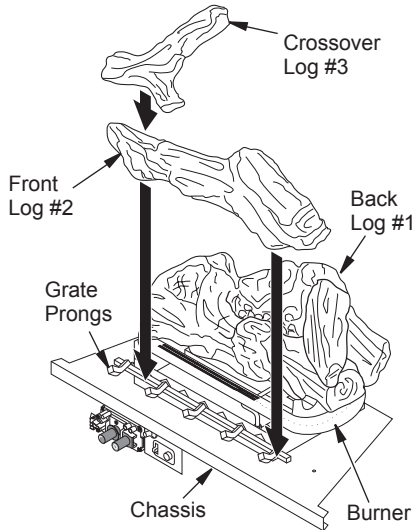
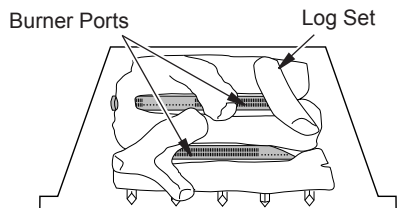

Figure 24 - Installing Log Set
Figure 25 - Installing Log Set, Top View
NOTICE: Most building codes do not permit concealed gas connections. A flexible gas line is provided to allow accessibility from the fireplace (see Figure 24). The flexible gas supply line connection to the equipment shutoff valve should be accessible.
1. Place back log #1 on grate to fit as illustrated in Figure 24. Make sure middle section at bottom of log set is seated into "U"-shaped cutout in center of chassis (see Figure 24). **IMPORTANT:** Make sure log does not cover any burner ports (see Figure 25).
2. Place front log #2 against front grate prongs as shown in Figure 24.
3. Place crossover log #3 on top of front and back logs as shown in Figure 24.